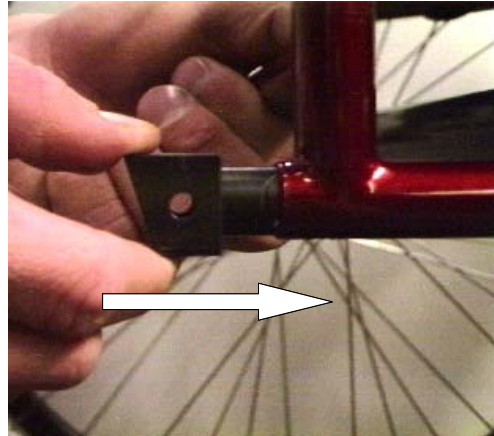

Figure 1
2. Insert the cone attachment into the chassis (See figure 1) in place of the end plugs. Tighten the screw slightly to secure the cone attachment (use the Allen key 5mm). Then check that the cone attachment is straight. You can do this by holding the anti tip device above the cone attachment to see whether it is vertical. If it is not vertical you can use the tip stop to turn the cone attachment into position (see figure 2). Then tighten the cone attachment securely.